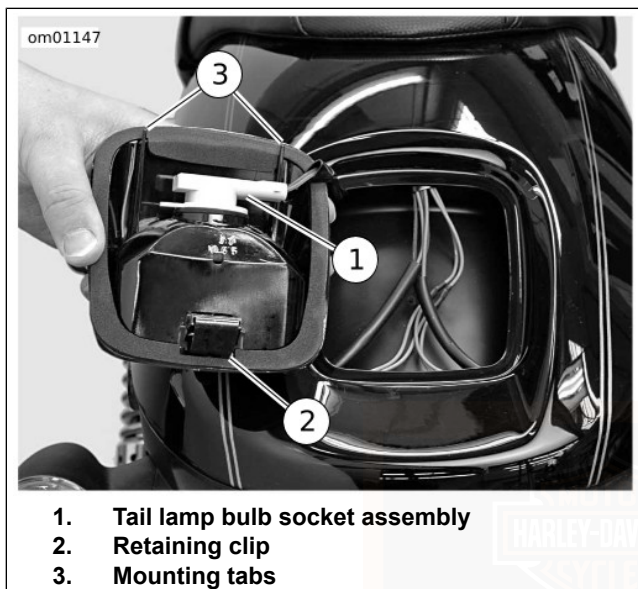

Figure 53. Tail Lamp Assembly: VRSCAW/VRSCDX Models
3. See Figure 53. Turn bulb socket assembly clockwise and pull outward from tail lamp housing.